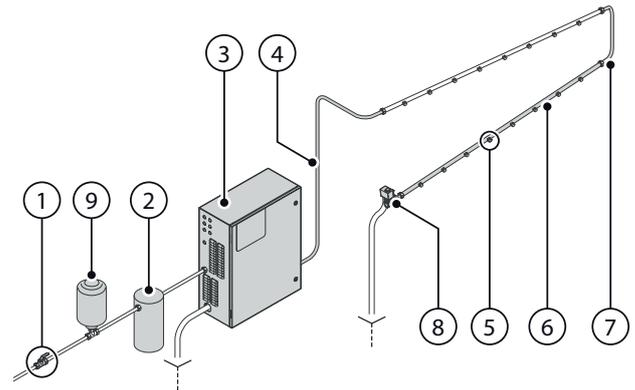

Fig. 7.a
- Racks (6 - Fig. 7.a) suitably arranged so as to maximise the surface covered by the spray from the nozzles.
- Racks (6 - Fig. 7.a) suitably secured so as to remain straight, especially at the joints.
- For vertical installation, distance between the racks (6 - Fig. 7.a) and the floor ≥ 500 mm.
- Outside covers supplied fitted on both drain solenoid valves (8 - Fig. 7.a).
- Partial choking of the drain solenoid valve outlets (e.g. by using 1/2" to 1/4" adapters or alternative couplings) (8 - Fig. 7.a).
1. Open the manual valve (1 - Fig. 7.a) on the feedwater line and power on the unit.
2. Switch the unit on by moving the disconnect switch (1a - Fig. 7.b) to position I.